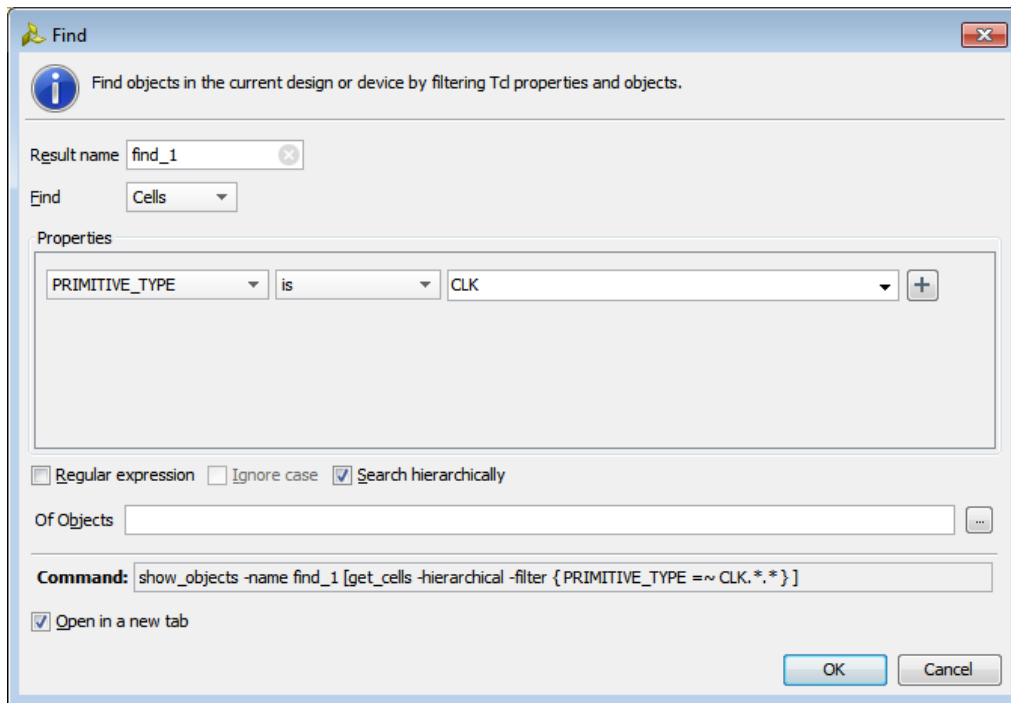

Figure 28: Find Dialog Box to Search for Clock Logic
2. In the **Find** dialog box, set the following as seen in Figure 28: